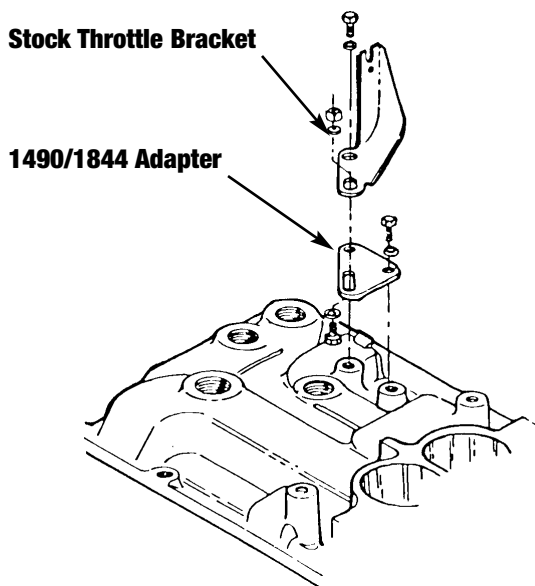

Figure 1 - 1490/1844 Throttle Plate
- **THROTTLE BRACKETS:** Due to the design of Performer manifolds, the throttle and kickdown bracket on some vehicles may require modification to fit. When using Edelbrock carburetors, use #1490 or 1845 throttle plate kit. See Figure 1.